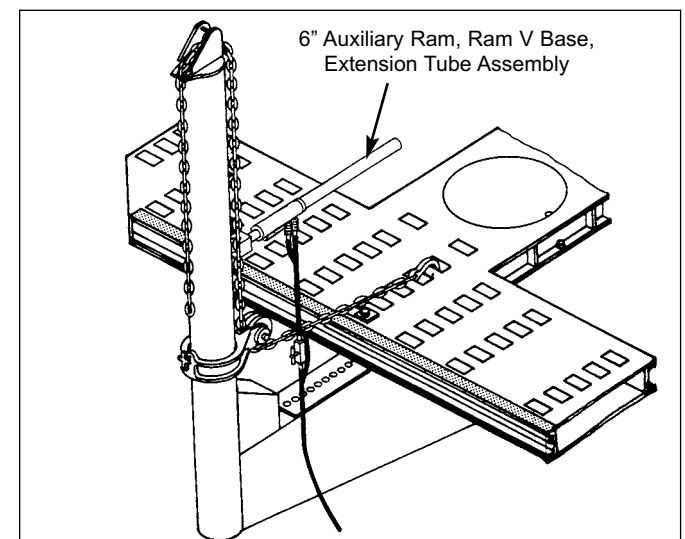

Figure 13
5. Secure v-base to piston end of 6" (150mm) auxiliary ram and attach extension couplings and appropriate length extension tube to opposite end of auxiliary ram. Then attach serrated saddle (or v-base) to end of extension tube to protect it when pushing against vehicle. (See Figure 13.)
6. Position v-base (at piston end of ram) against tower chain and extension tube assembly against vehicle. (See Figure 13.)